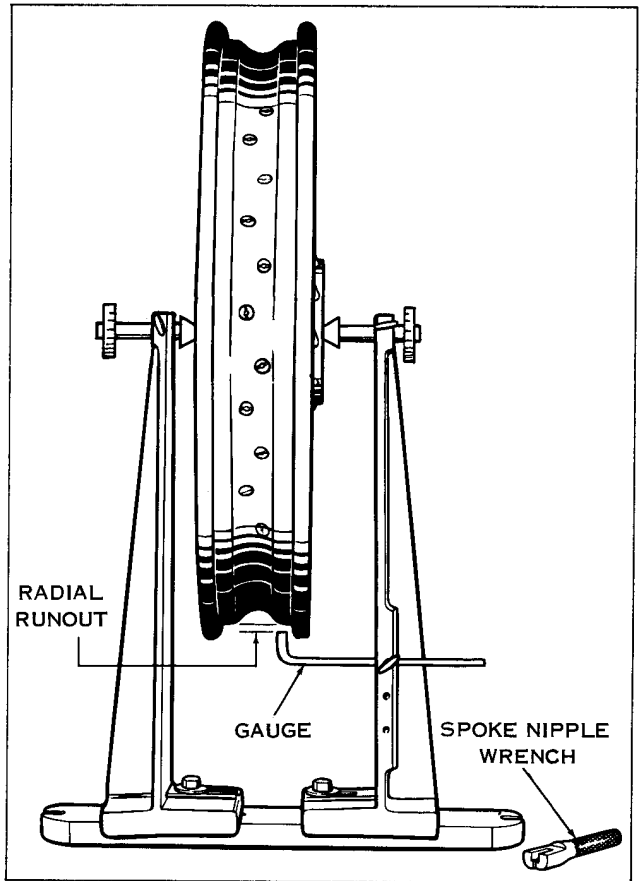

Figure 2-11. Truing Rim Concentric with Hub
7. After rim has been centered sideways with wheel hub and runs true sideways, check it for concentricity. Adjust truing stand gauge to rim tire bead seat as shown in Figure 2-11. If rim runs eccentric (radial runout), nipples must be loosened at points rim does not contact gauge, and nipples tightened at points rim contacts gauge. Amount nipples are to be loosened or tightened is determined by the amount rim is out of round. Rim should be trued to 1/32 in. or less radial runout.